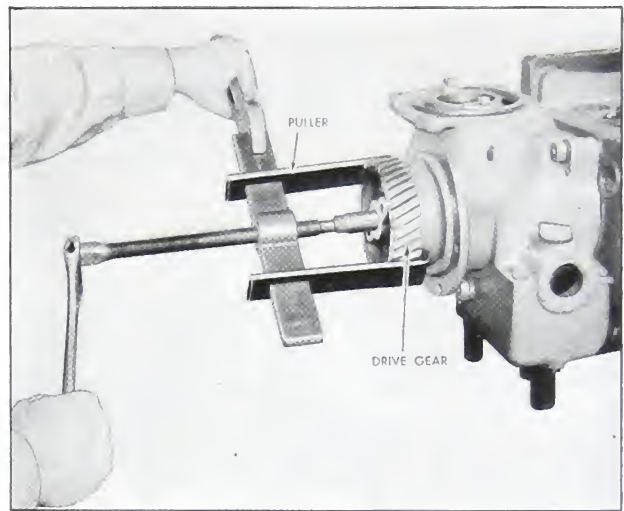

Fig. 5-9. Pulling fuel pump drive gear
1. Use a puller to remove the fuel pump drive gear from the main drive shaft as shown in Fig. 5-9. If the shaft has been scored, it may be advisable to protect the end of the shaft with a threaded sleeve when using the puller. A hydraulic ram will effect some time saving in this operation.